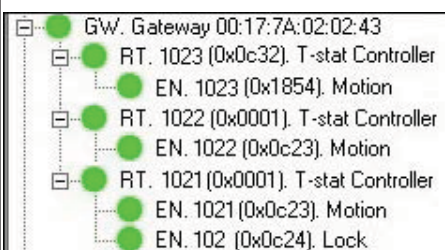

Figure C32
14. See Figure C32 for a picture of the final **Online Network** tree.
When steps 1-4 below have been performed, the online network tree in SysMon will typically look as in the example in Figure C32: